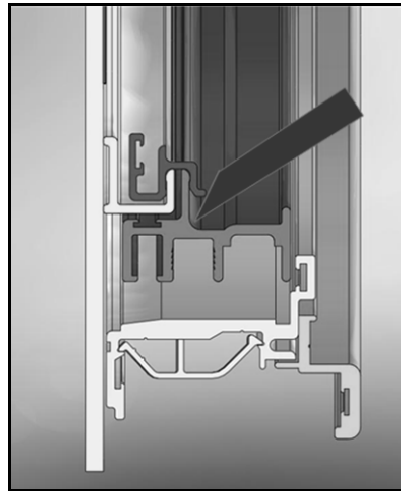

FIGURE 3-16. REMOVE CLIPS
- 1) Refer to **Figure 3-16**. Remove Hidden Frame clips to release window glazing. Place tapered end of glazing stick at the intersection (angle side to glazing) of the frame and the clip and tapping with the mallet until a gap appears.